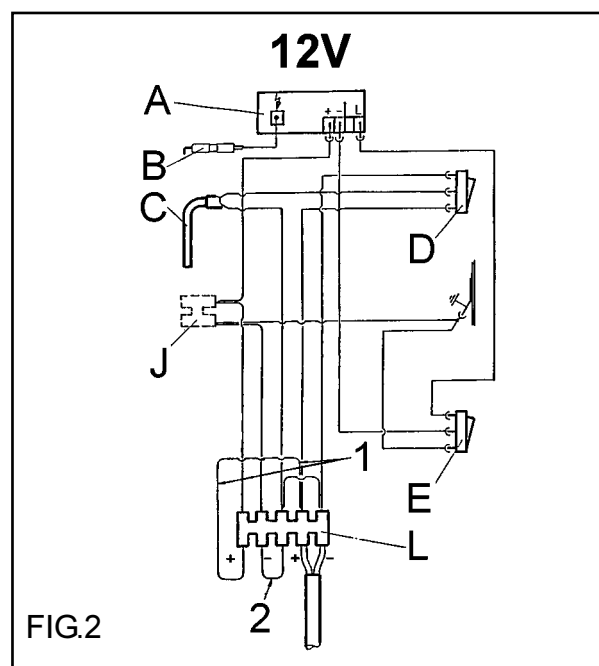

FIG.2
Diagramme for the 12 V installation: FIG.2
FIG.2 shows the wiring diagramme of the refrigerator as delivered. The 12 V supply enters at (L). The reigniter (A) is fed via two wires (1) and (2) at terminal block (L).
of FIG.2. In this case one disconnects the wires as said above but connects the separate supply to (J). The reigniter should not be connected directly to a battery charger but only over a battery.